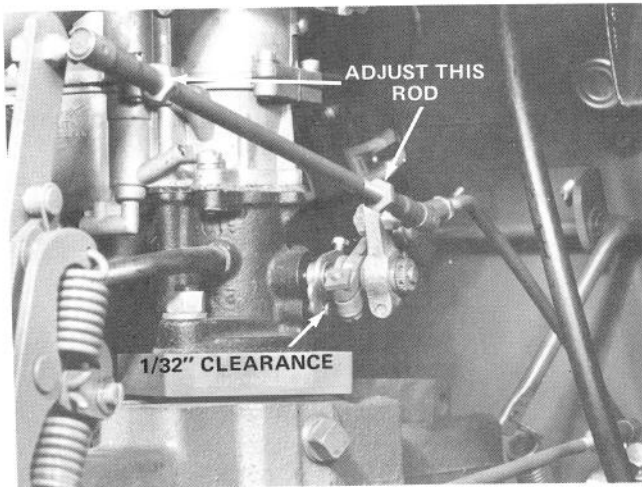

Figure 69
3. With the engine shut off, move the throttle lever to full speed position (all the way back). Loosen the jam nuts and adjust the control rod length to provide 1/32 inch clearance between the carburetor bell crank and the stop pin on the carburetor Figure 69.